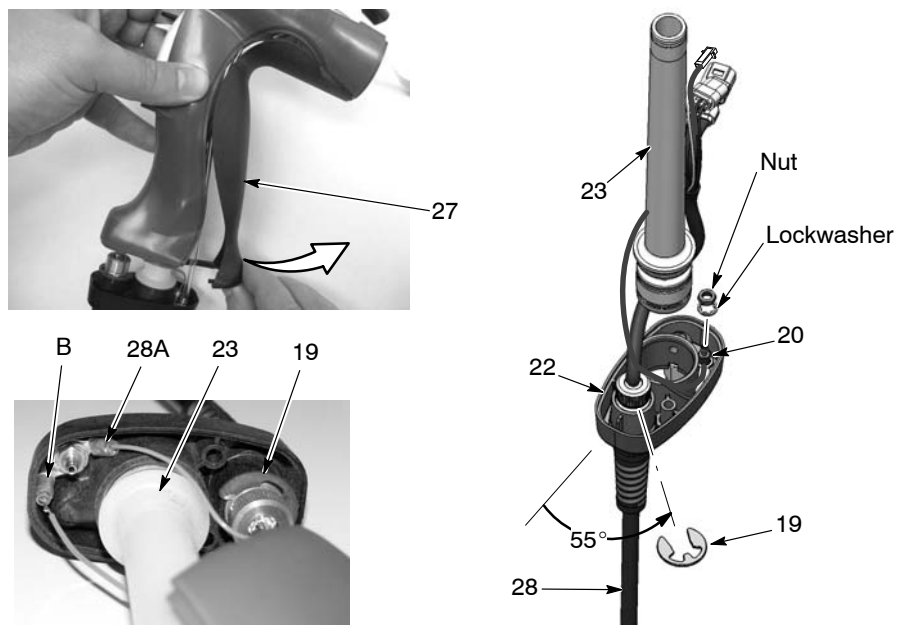

Figure 5 Removing Bulkhead and Body Screw
18. See Figure 5. Gently pull the ground pad (27) away from the handle, starting with the bottom and rotating it up and away.
20. Use a deep  $\frac{1}{4}$ -in. socket to remove the nut and lockwasher from the barbed fitting (20) and disconnect the gun cable ground wire (28A) and display module ground wire (B) from the fitting (guns that have not had the display module upgraded previously will not have a display module ground wire). Discard the display module ground wire.
21. Remove the retaining ring (19) from the cable, then remove the cable (28) from the base.
1. See Figures 5 and 6. Re-install the lockwasher and nut on the barbed fitting and tighten the nut with a deep  $\frac{1}{4}$ -in. socket.
2. Feed the new cable included with the upgrade kit (28) through the handle base (22) and secure it to the base with the retaining ring (19). Position the retaining ring at the angle shown.
3. Install the inlet tube with O-rings installed (23) into the handle base (22), if removed.
6. Connect the 4-mm clear tubing (part of filter assembly, item 4) to the barbed fitting (20) in the handle base.